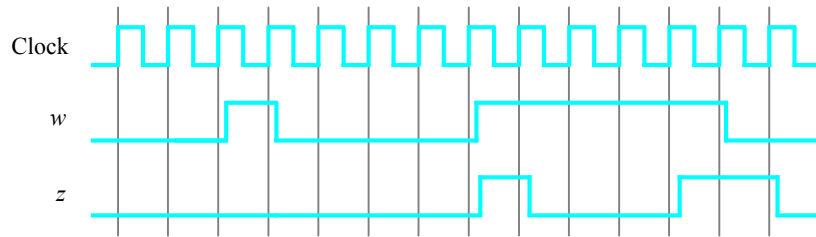

Figure 1. Required timing for the output z .
We wish to implement a finite state machine (FSM) that recognizes two specific sequences of applied input symbols, namely four consecutive 1s or four consecutive 0s. There is an input w and an output z . Whenever $w = 1$ or $w = 0$ for four consecutive clock pulses the value of z has to be 1; otherwise, $z = 0$. Overlapping sequences are allowed, so that if $w = 1$ for five consecutive clock pulses the output z will be equal to 1 after the fourth and fifth pulses. Figure 1 illustrates the required relationship between w and z .
5. Simulate the behavior of your circuit using ModelSim. Replicate Figure 1 using ModelSim's wave output. Save this figure and turn it in as a jpg file in your Part2 folder.